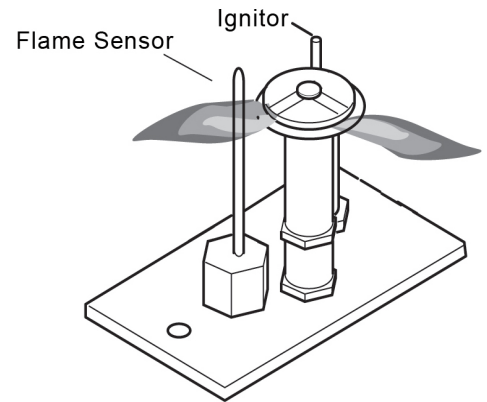

Figure 27 - Before taking unit apart, check pilot flame. Flame should touch Flame Sensor and Ignitor.
1. Check pilot flame. Flame should touch approximately $\frac{3}{8}$ " of the top of Flame Sensor and Ignitor. *See Figure 27.* If not, contact dealer for service.